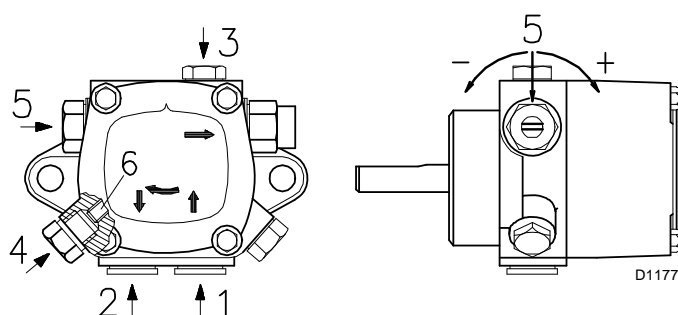
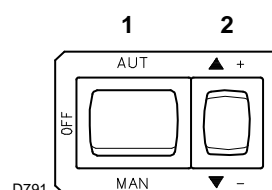

Fig. 21
Fig. 22
For the priming pump loosen the screw 3)(Fig. 21) in order to bleed off the air contained in the suction line and wait until the fuel flows out.
- For self-priming to take place, one of the screws 3) (Fig. 21) of the pump, must be loosened in order to bleed off the air contained in the suction line.
- Start the burner by closing the control devices, with switch 1) (Fig. 22) in the "MAN" position and with switch 6) (Fig. 6 at page 13) in the "OIL" position.
- The pump can be considered to be primed when the gas oil starts coming out of the screw 3) (Fig. 21). Stop the burner: switch 1) (Fig. 22) set to "OFF" and tighten the screw 3).